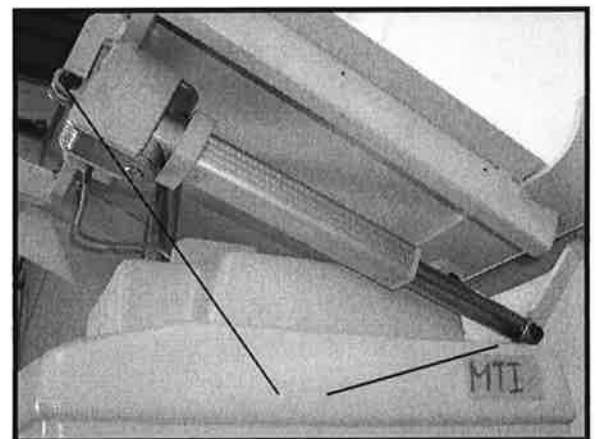

Figure 4
4) Remove one of the two E-rings on the 1/2" clevis pin holding the actuator at the motor shaft end, (figure 4). Support the chair back, push out the shaft end pin, lay the back over on the seat. Remove the motor end pin, supporting the motor base at the same time. A hammer and soft metal rod may be needed to drive the pin out. Remove the motor from the mounting clevis. Reverse the process to install the replacement motor, using new cable ties.